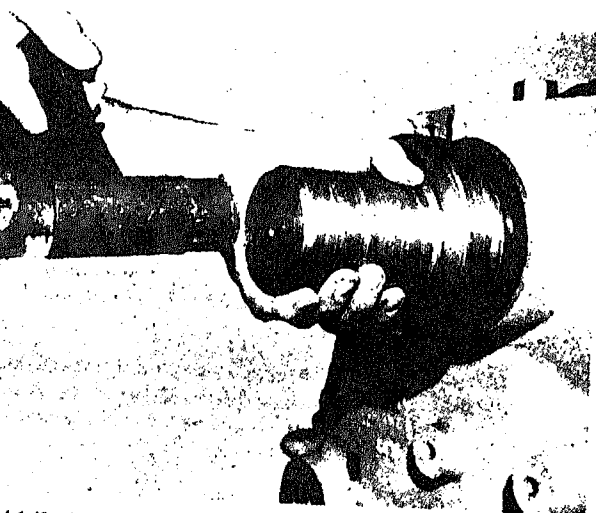

Fig. 14-1-49. Installing crankshaft oil seal
3. Install oil seal in bore with $\frac{1}{2}$ in. [12.7000 mm] Mandrel and soft hammer, Fig. 14-1-49. Steel spring side of seal must go in bore first. Drive seal into bore until outer edge of seal is at least 0.030 in. [0.7620 mm] inside of bore shoulder.